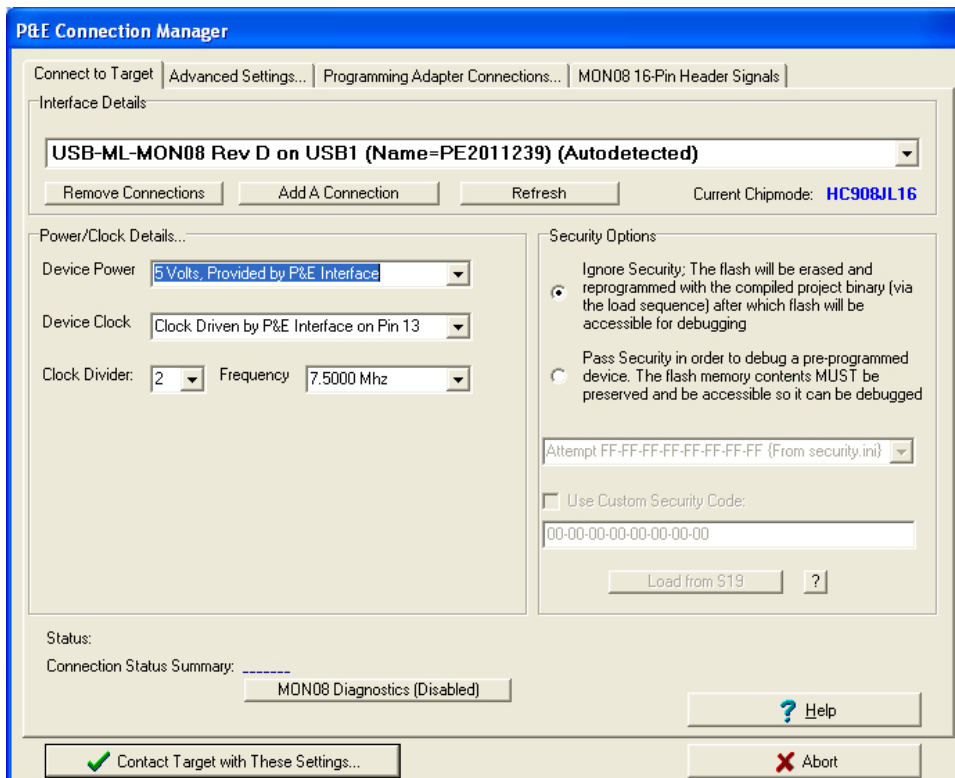

Figure 7: CodeWarrior Connection Manager for USB Programmers
4. Start the CodeWarrior debugger by selecting "Debug" from the Project menu or by clicking on the icon of a green arrow and bug at the top right above the project box. This will bring up a dialog box (Fig. 7) that defines the connection between CodeWarrior and the development board.